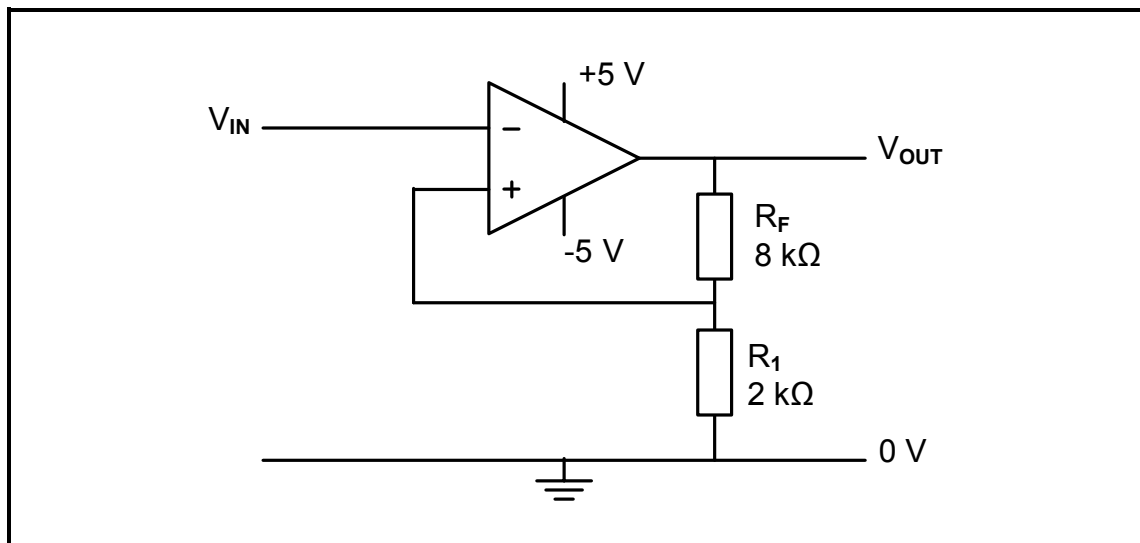

FIGURE 2.5: INVERTING SCHMITT TRIGGER
2.5 Refer to FIGURE 2.5 below and answer the questions that follow.